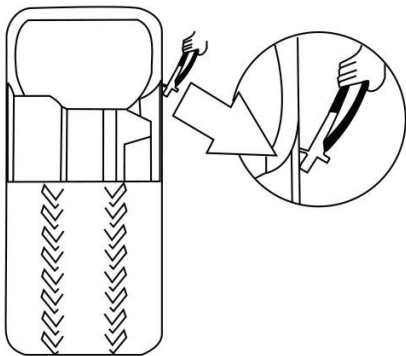

Fig. 15
- Remove all the foreign substance and weights from the rim (Fig. 15).